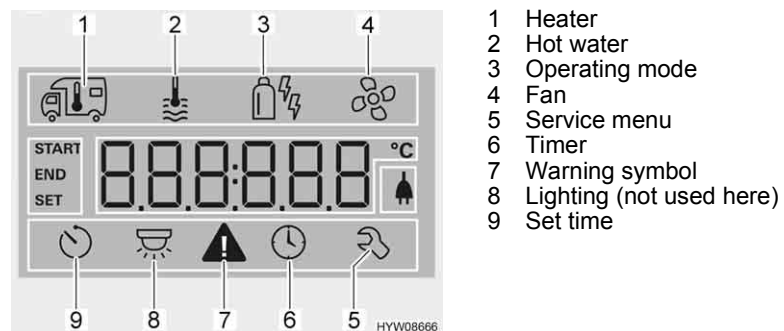

Fig. 203 Display
- Turn rotary push button (Fig. 181,6) until the hot water menu symbol (Fig. 203,2) flashes.